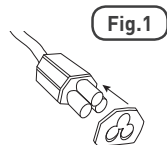

Fig.1
- ⚠️ ALS DE KACHEL IN EEN RUIMTE WORDT GEBRUIKT WAAR HIJ IN CONTACT MET WATER KOMT, EN OM ERVOOR TE ZORGEN DAT DE IP44 CLASSIFICATIE BEHOUDEN BLIJFT, DIENT ER ALTIJD VOOR GEZORGD TE WORDEN DAT HET ELEKTRICITEITSSNOER IS VOORZIEN VAN DE ZWARTE FOAMPACKKING AAN DE CONTACTZIJDE VOORDAT DE SLIMLINE KACHEL OP HET ELEKTRICITEITSNET WORDT AANGESLOTEN [FIG. 1]